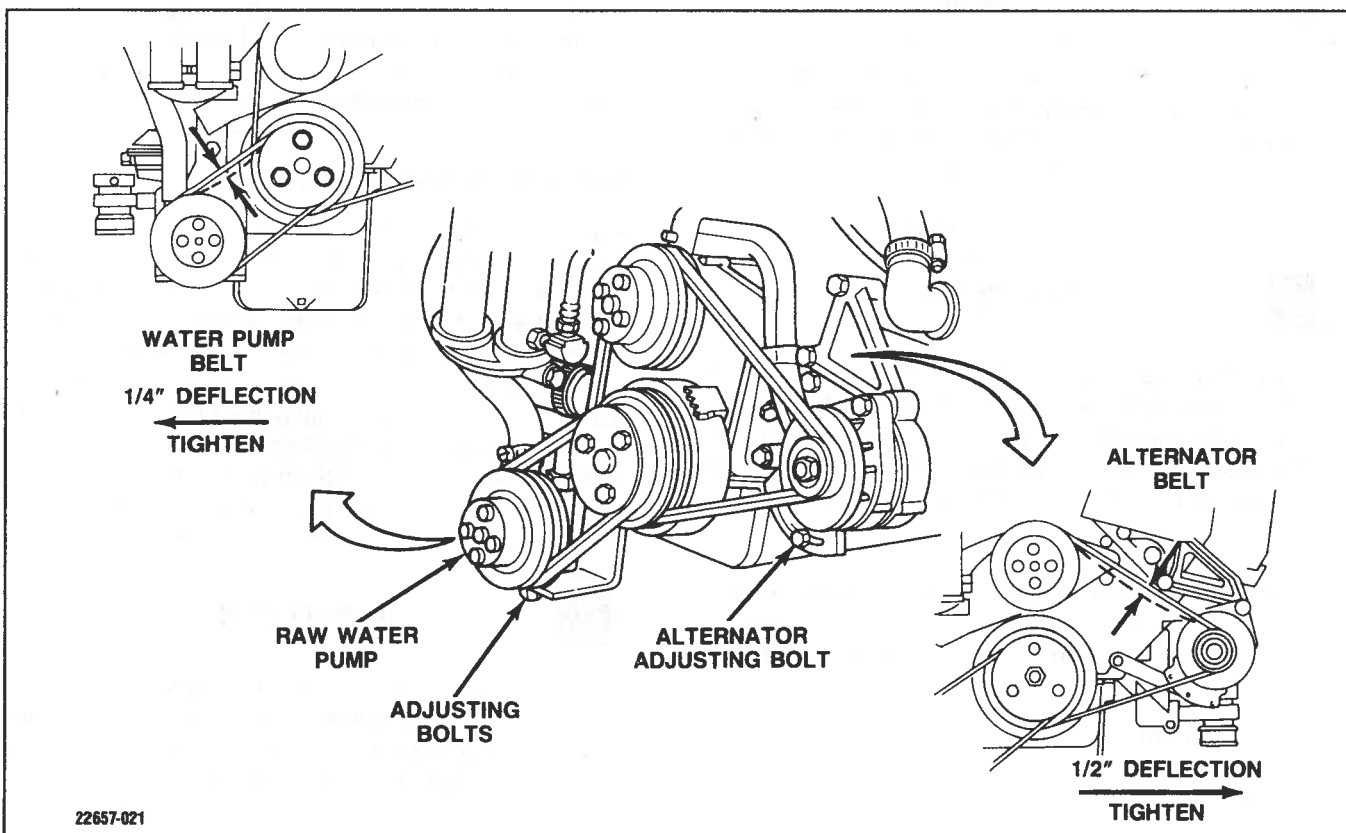

Figure 3-1. Drive Belt Deflection
1. Check belt tension by depressing belt with thumb at midway point (4) (Figure 3-1). Belt should depress 1/2 in. (12 mm).
1. Check belt tension by depressing belt with thumb at midway point (2) (Figure 3-1). Belt should depress 1/4 in. (6 mm).